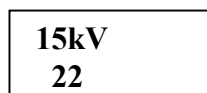

Figure 3
7.5. The tests are carried out according to the methods specified in GOST R 51317.4.2-99. To get single discharges, push briefly "**Start (Пуск)**" button located on the front side of the handle. The LED in the control panel shows red. If the button is constantly pressed, the storage capacitor is charged with a 1 Hz or 5 Hz frequency, depending on the set startup mode. When the pulses are brought, the display indicates the value of the charge voltage and the number of brought pulses from 1 to 255 (ref. Figure 3).